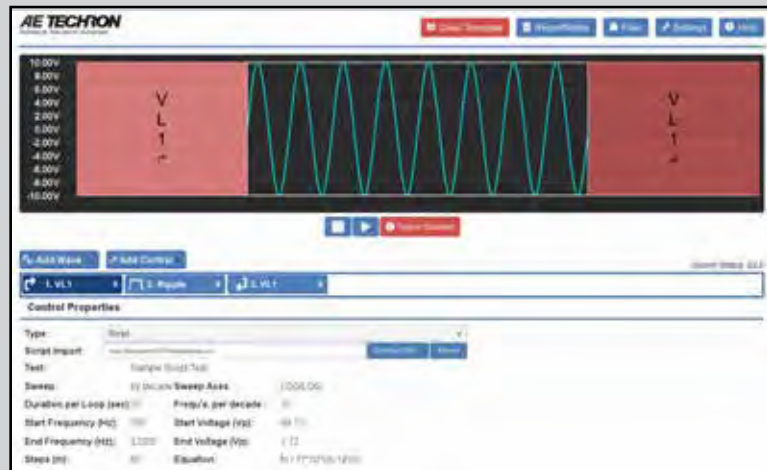

Figure 6.14 – Script VL Creation - Import CSV File
- Press the Choose CSV... button, and the Files window will open. Locate the csv file and open it (Note: A csv file cannot be imported from the USB drive). Any File Notes included in the csv file will appear below the Control Properties in the Properties window. See **Figure 6.14**.